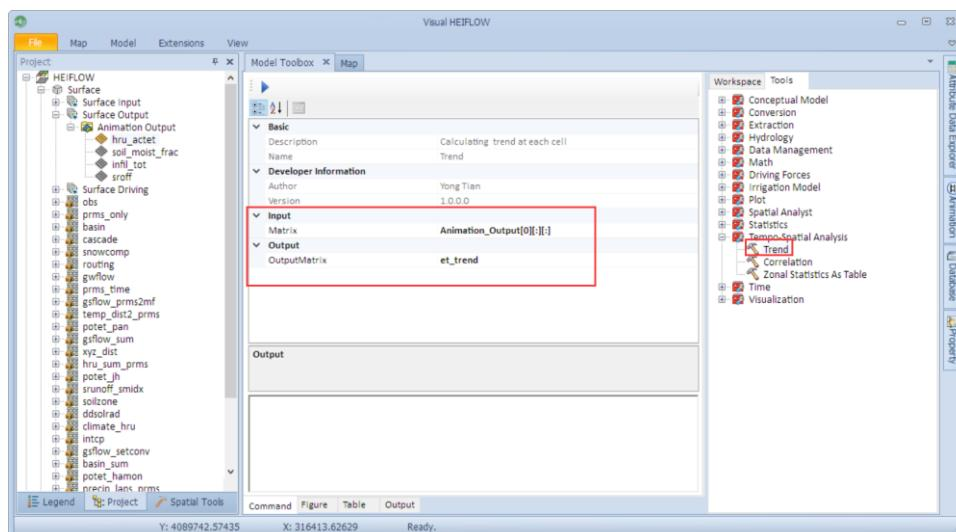

Figure 8-18. Input settings of the Trend tool.
- 2) In the Model Toolbox floating panel, double click Temporal-Spatial Analysis -> Trend. Set the inputs according to Figure 8-18.